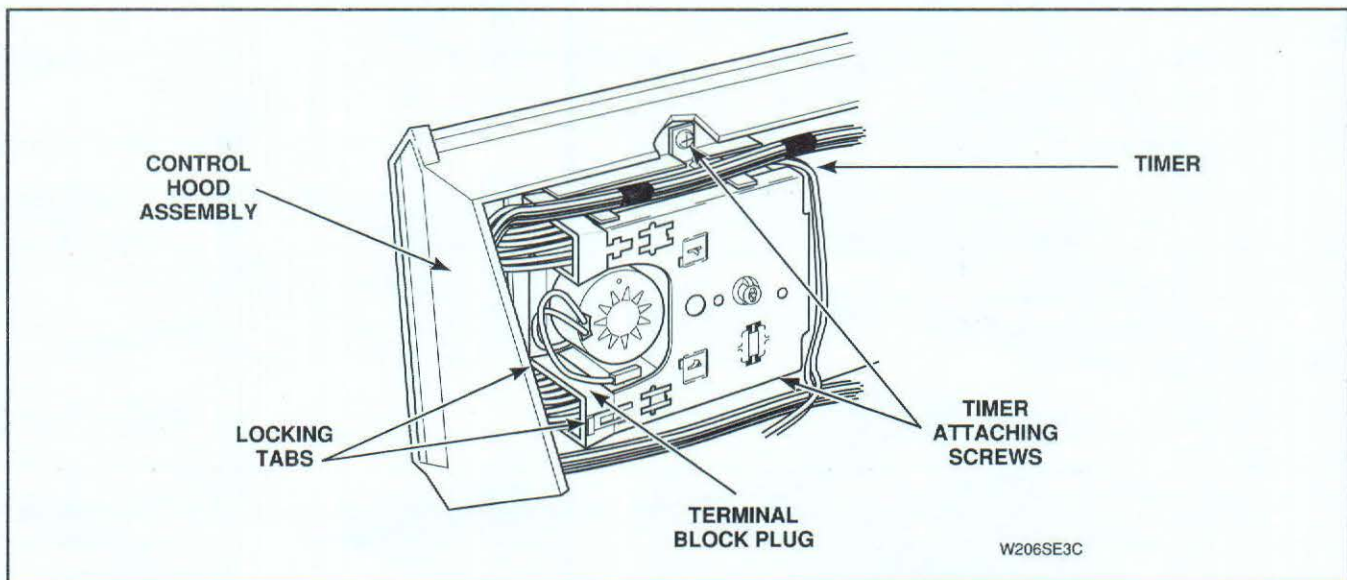

Figure 9
- Remove two screws holding timer to control hood mounting plate, Figure 9.